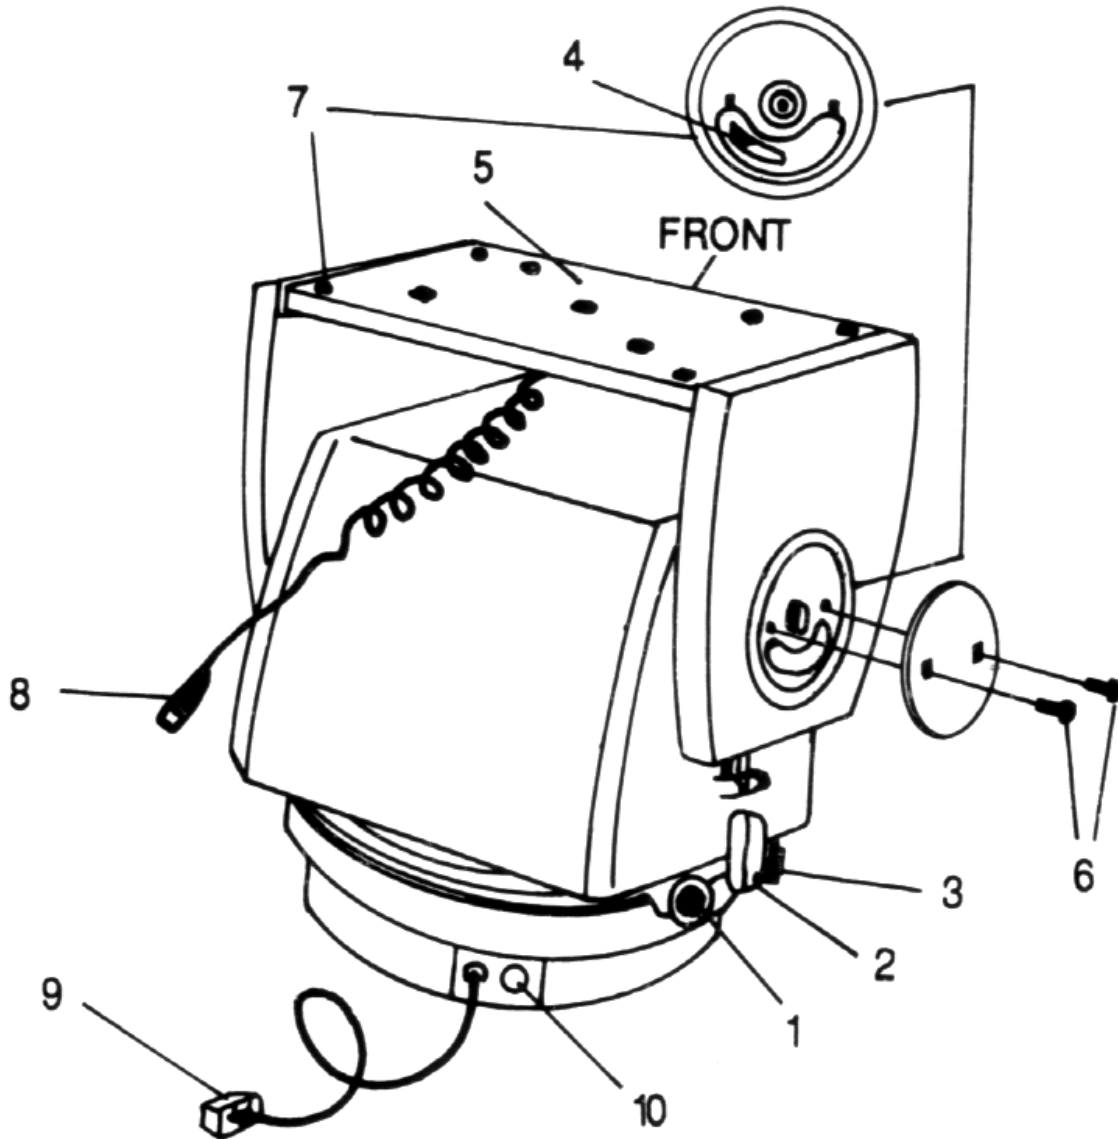

Figure 2
2. To adjust pan limit stops (see Figure 2), loosen screws securing both stops (1) and (3) to unit. Slide stops around unit to desired locations and secure by tightening screws.
3. To adjust tilt limit stops (see Figure 2) located in each end plate, remove two screws securing each end cap to unit. Loosen and adjust tilt limit stop screws for desired tilt limit position. Tighten limit stop screws and reinstall each end caps to unit and secure with two screws.